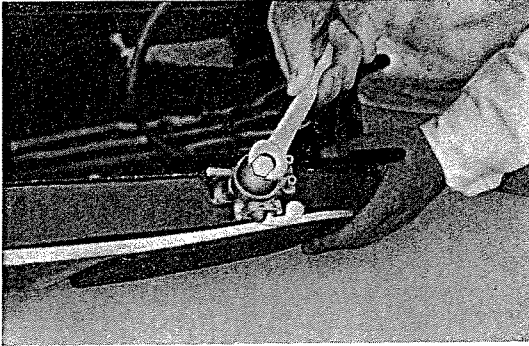

Fig. 4.31 Removing of fuel cock
7. By loosening the joint nut, the cock assembly is separated from the tank. (Refer to Fig. 4.31)